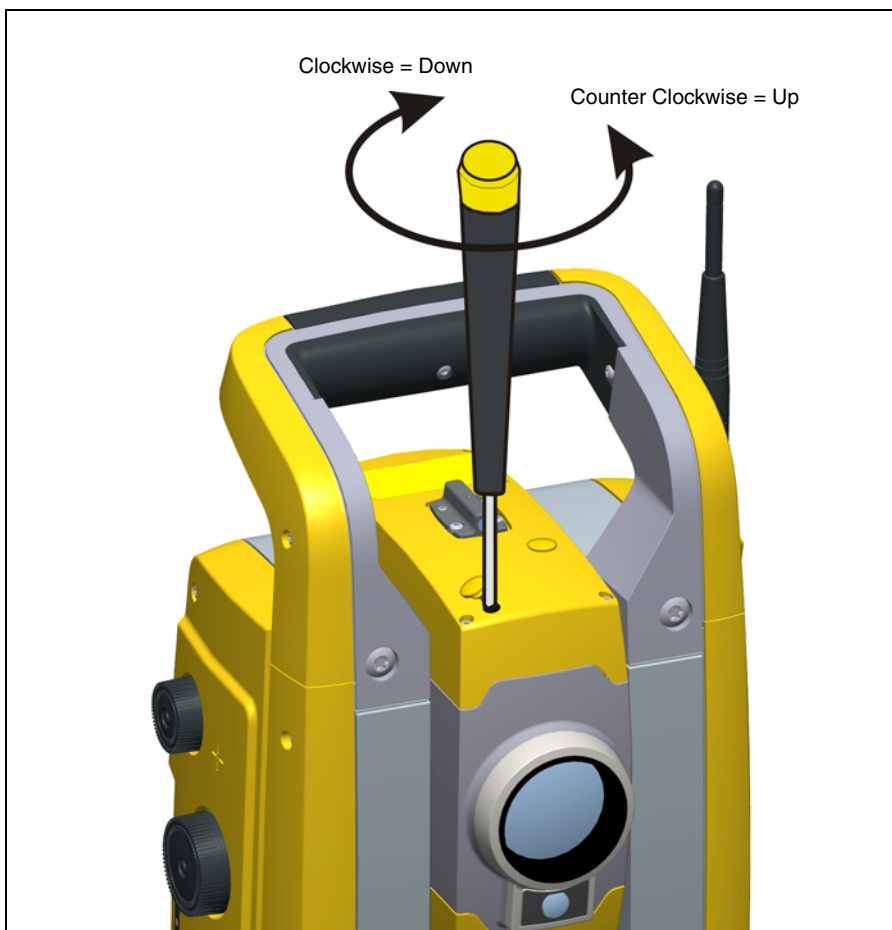

Figure 4.23 Vertical position adjustment
2. To correct the vertical position of the laser spot, insert the allen key into the vertical adjustment port and turn it as shown in figure 4.23.